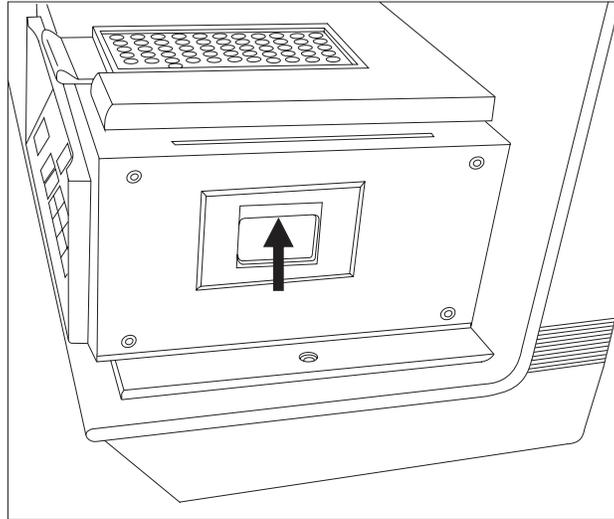

Figure 2.1
2. Locate the release handle on the right side of the Autosampler console and pull up on the handle (see Figure 2.1).